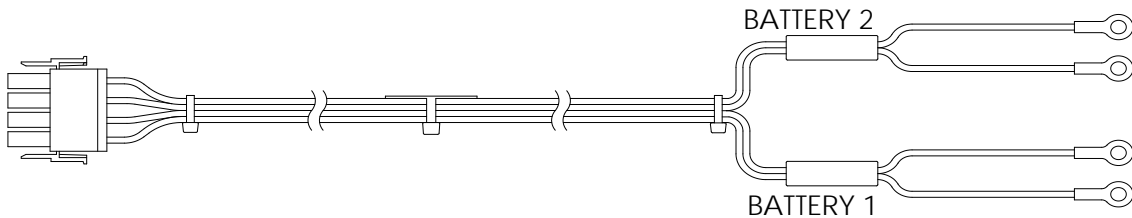
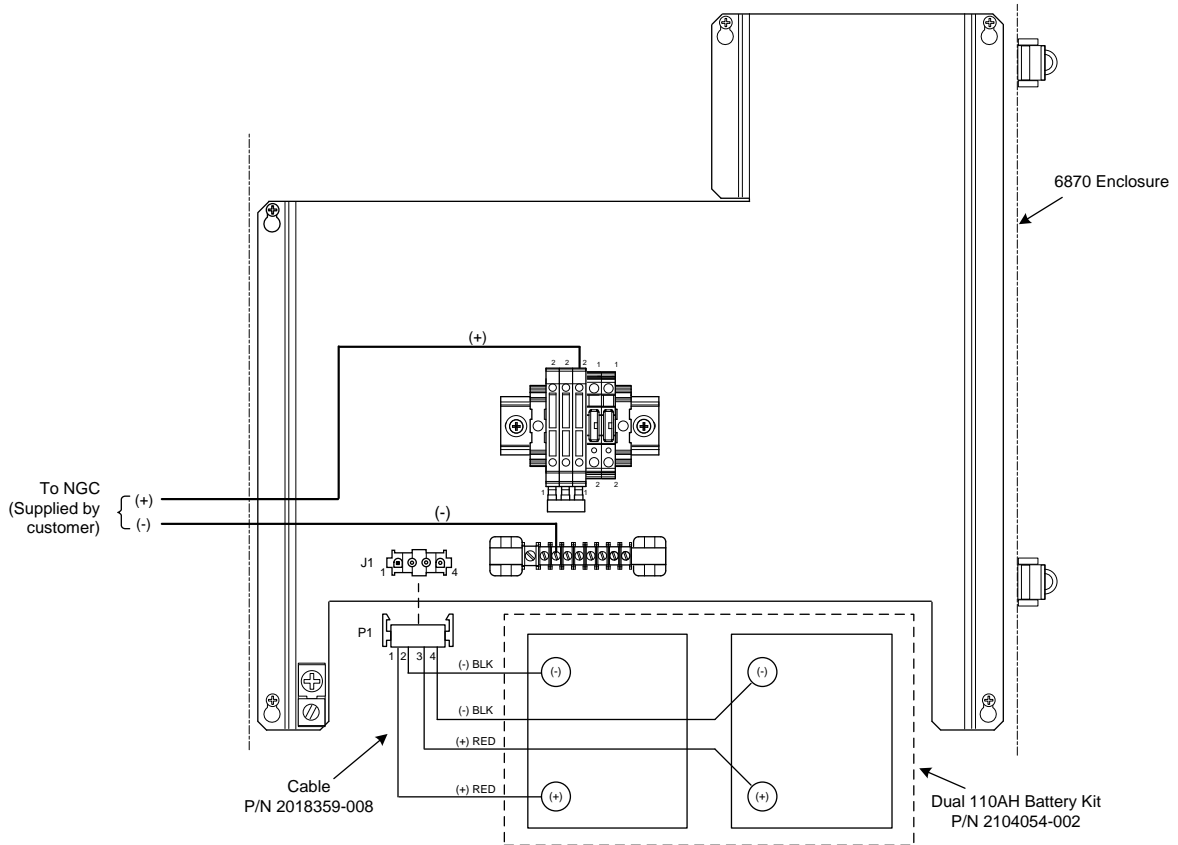

Figure 3-74 12/24 VDC Dual Battery Pack Cable
Figure 3-75 Battery Pack with DC Power Supply Wiring Instructions
- 2) For the 12/24 VDC solar power system or the 24 VDC UPS power system, a dual battery cable is provided with the unit (see Figure 3-74). Make the following battery connections using Figure 3-75 for 12 or 24 VDC.